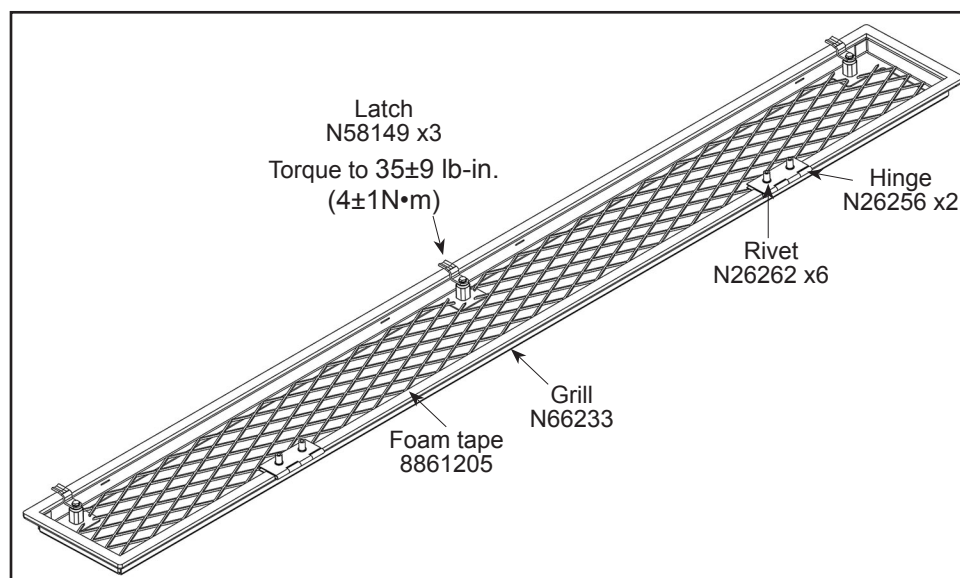

Figure 2 - Preparation of the New Grill
- 1.2. Attach two hinges to each new grill using three rivets per hinge. See Figure 2.
- 1.3. Install the latches on the grill, the tongue must face towards the middle in the unlocked position. Torque the nuts as indicated in Figure 2.
- 1.4. Install the foam tape inside the grill, on the outside perimeter. Don't tape over the hinges. See Figure 2.